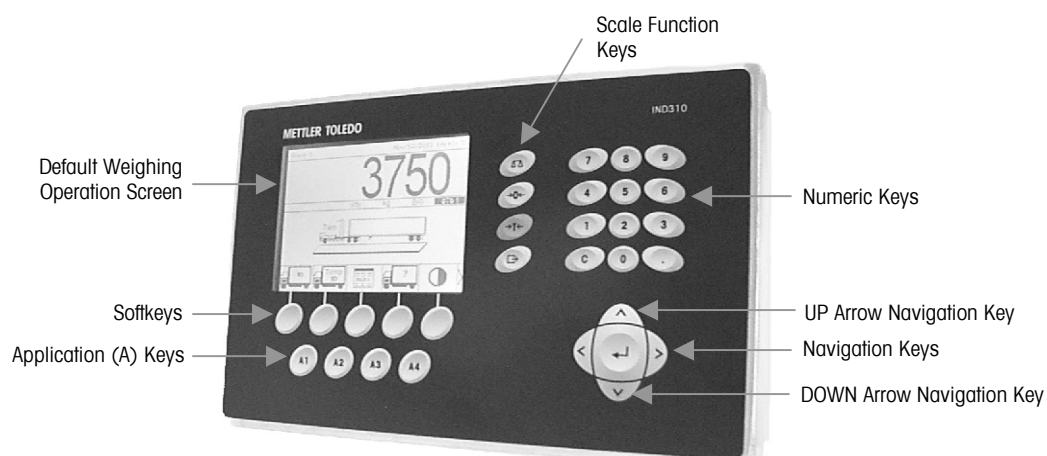
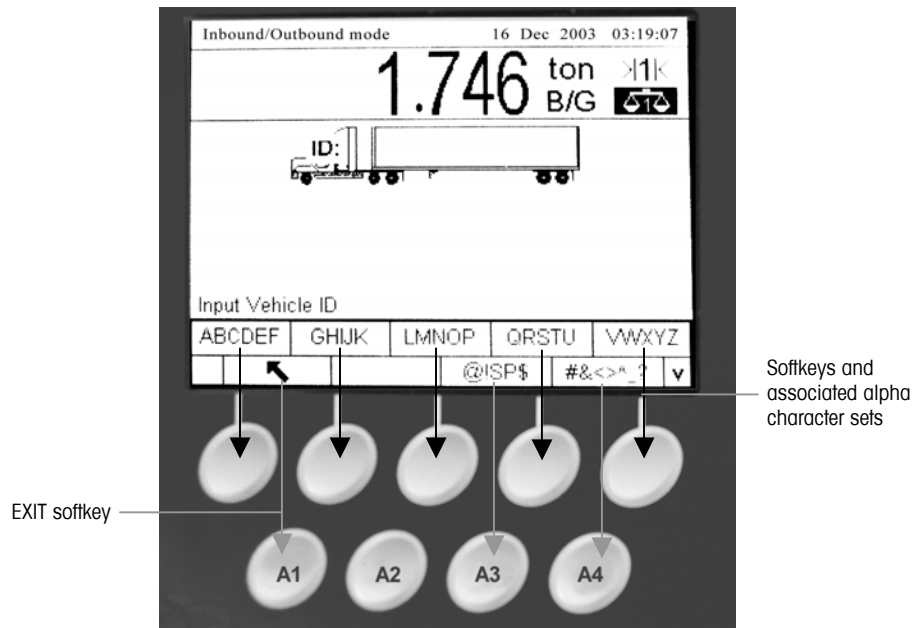

Figure 2-2: Key Locations and Default Weighing Operation Screen
Figure 2-3: Alpha Keys
The locations of the above listed keys and the default weighing operation screen are shown in Figure 2-2.
Five softkeys are located along the bottom of the display screen (see Figure 2-2). Some screens might have up to three pages of softkeys for a total of 15 possible functions. A DOWN ARROW icon  displayed on the lower-right corner of the screen (to the far right of the softkey icons) indicates that more softkey selections are available. Press the DOWN arrow navigation key to display additional softkey screens. Press the UP arrow navigation key to display the previous softkey screen.
Application keys (A keys) are located below the softkeys (see Figure 2-2) and are labeled
Scale function keys (see Figure 2-2) are:
Navigation keys (see Figure 2-2) enable navigation within the setup menu tree, setup screens, and application screens. Navigation keys include:
Use the terminal's 12-key numeric keypad (see Figure 2-2) to enter data and commands.
On some setup pages, softkeys and application keys function as alpha keys (see Figure 2-3) that are used to enter alphabetic characters for setup parameters such as passwords.
To use alpha keys, position the cursor in the data entry location (see Navigation Keys), press the soffkey or application key associated with the desired set of alpha characters as shown in Figure 2-3. The soffkeys change to display each alpha character included in the selected set of alpha characters. Use the UP and DOWN arrow navigation keys (see Figure 2-2) to switch between upper-case and lower-case characters. Press the key associated with the specific alpha character
From the main alpha key menu, press the EXIT soffkey to escape from alpha entry without saving data. Use the CLEAR (C) key (see Numeric Keys, Figure 2-2) to delete unwanted alpha characters.
2. Once the vehicle is on the scale, press the VEHICLE ID soffkey. A vehicle ID prompt displays with a cursor in the Vehicle ID field. The soffkeys and application keys become alpha keys (see Figure 2-3).